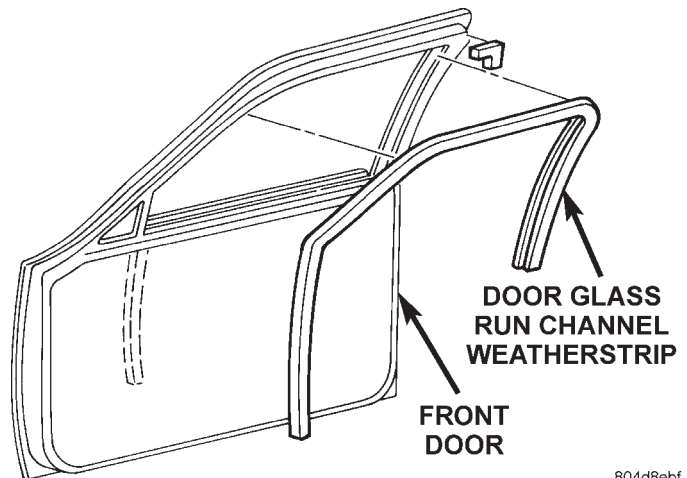

Fig. 24 Front Door Glass Run Channel Weatherstrip
- (2) Grasp seal from upper run channel corner and firmly separate weatherstrip from flange (Fig. 24).